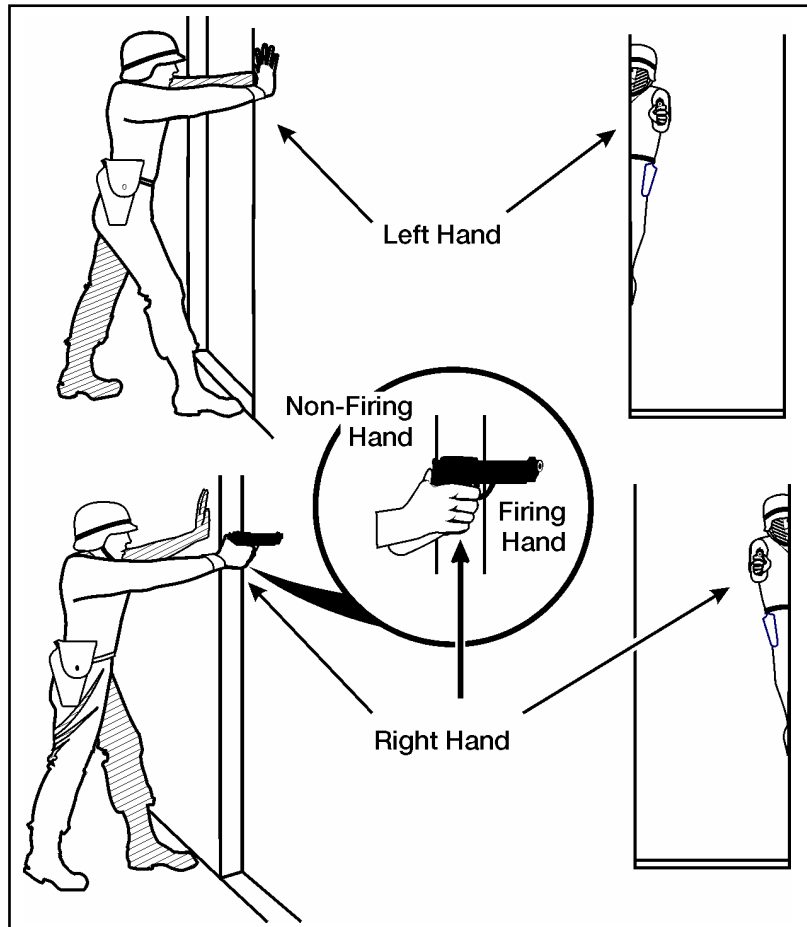

Figure 071-004-0006-7. Standing-with-support position
c. Kneeling (figure 071-004-0006-8). To assume this position—
- (1) Use available cover for support such as a low wall, rocks, or a vehicle that you can fire over.
- (2) Place your firing knee on the ground. Put your left knee down to fire left-handed, or your right knee down to fire right-handed.